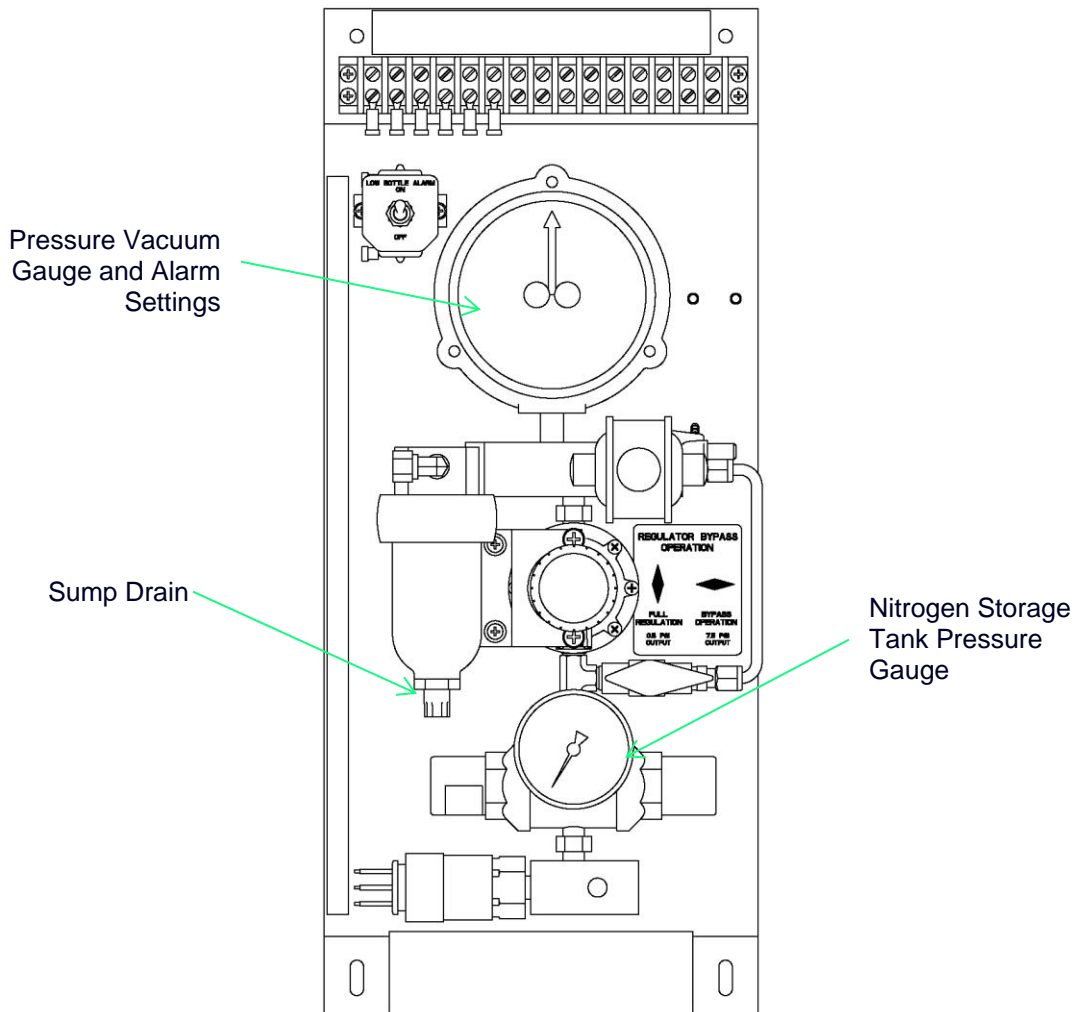

Figure 11 – Regulation Module Assembly
5. Release pressure from nitrogen storage tank using the sump valve (see figure 11 on page 19) until 95 psi remains.
3. Make sure unit is de-pressurized by opening the sump valve (see figure 11 on page 19).
7. Release pressure from nitrogen storage tank using the sump valve (see figure 11 on page 19) until 95 psi remains.